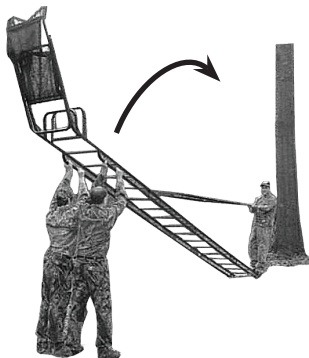
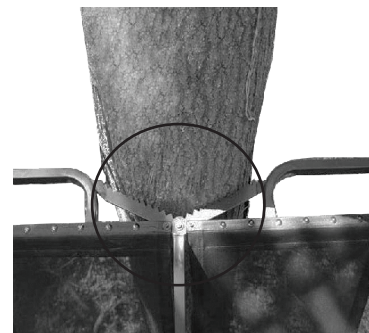

Figure 28
Figure 29
STEP 4: Position the bottom ladder section in this cleared area (approximately 5' from the base of the tree trunk) and have one (1) adult stand on bottom rung of the bottom ladder section. The adult who is positioned on the bottom rung must control the stabilizing straps and the treestand as it is erected. The two (2) other adults shall gently walk the treestand assembly up and into position as shown in Figure 28. Once erect, make certain the tree blade is centered on the tree trunk as shown in Figure 29.